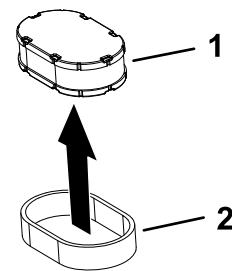

Figure 42
5. Separate the foam and paper elements (Figure 42).